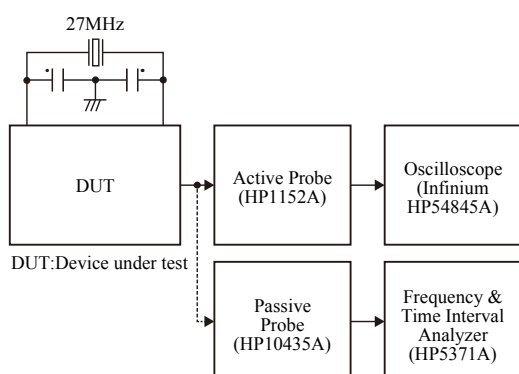

Figure 1. Measurement circuit 1
*2. The numeric values are measured values obtained using the circuit in Figure 1 and the NPC standard evaluation board.